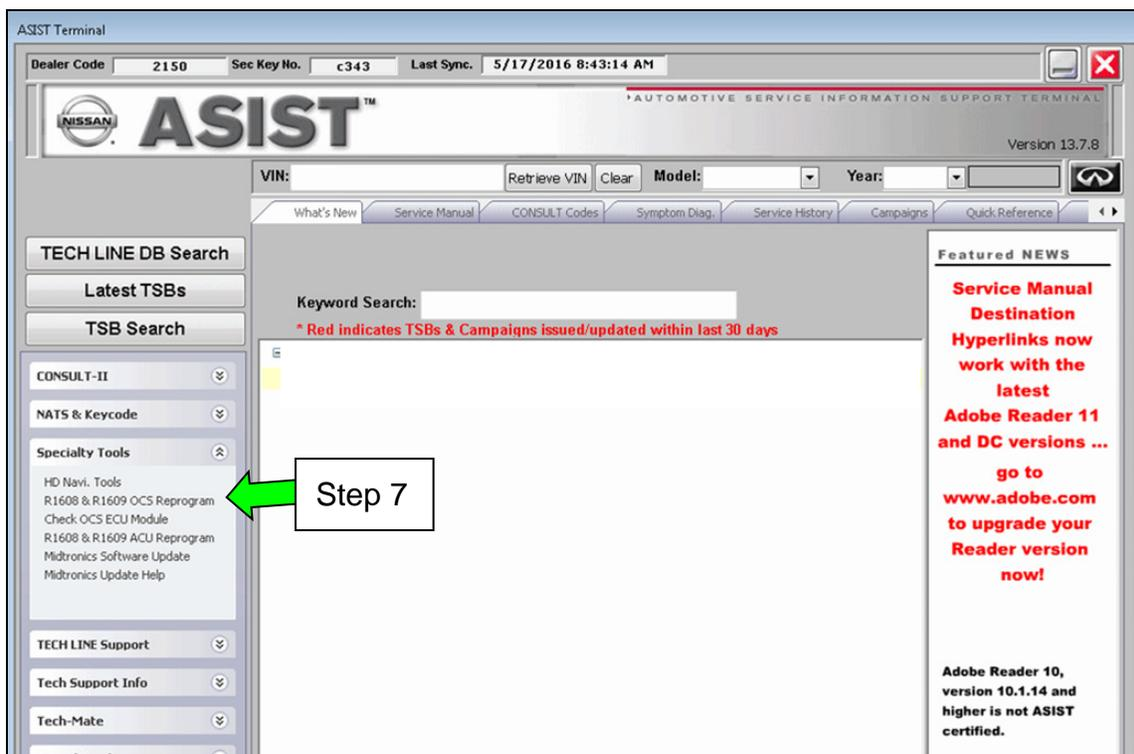

Figure 1
7. Start the CONSULT PC, open ASIST and then select “**R1608 & R1609 OCS Reprogram**” on ASIST under Specialty Tools (Figure 1).